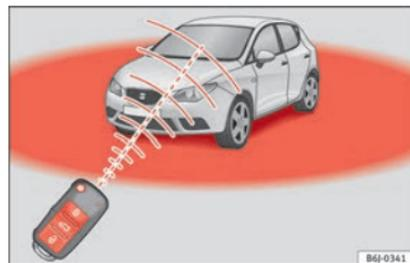

Fig. 123 Range of the radio frequency remote control.
• The radio frequency remote control key functions only when you are within range **Fig. 123**.